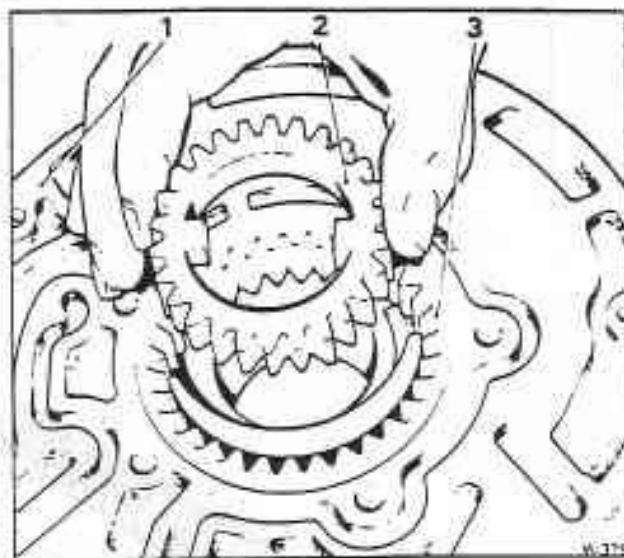

Fig. T16-4 Removing the pump gears
7. Remove the gears from the pump body as shown in figure T16-4.
Fit the drive gear with the drive tangs uppermost (see fig. T16-4).